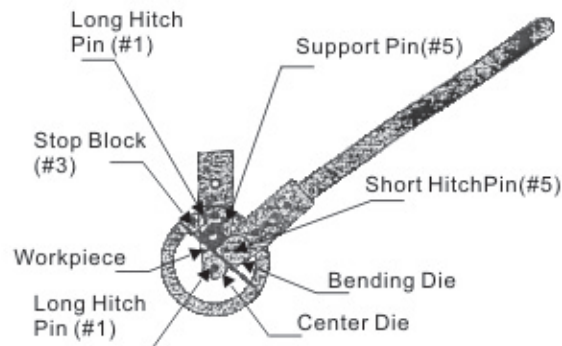

Figure3-Using Stop Block
- Step 1: The STOP BLOCK (#3) holds the workpiece in place while the selected bending DIE (#17-#23) on the HANDLE (#9) bends it around the LONG HITCH PIN (#1) or selected center DIE as shown in Figure 3. The workpiece will bend in the shape of the bending DIE around the LONG HITCH PIN (or center DIE). See Figure 3.